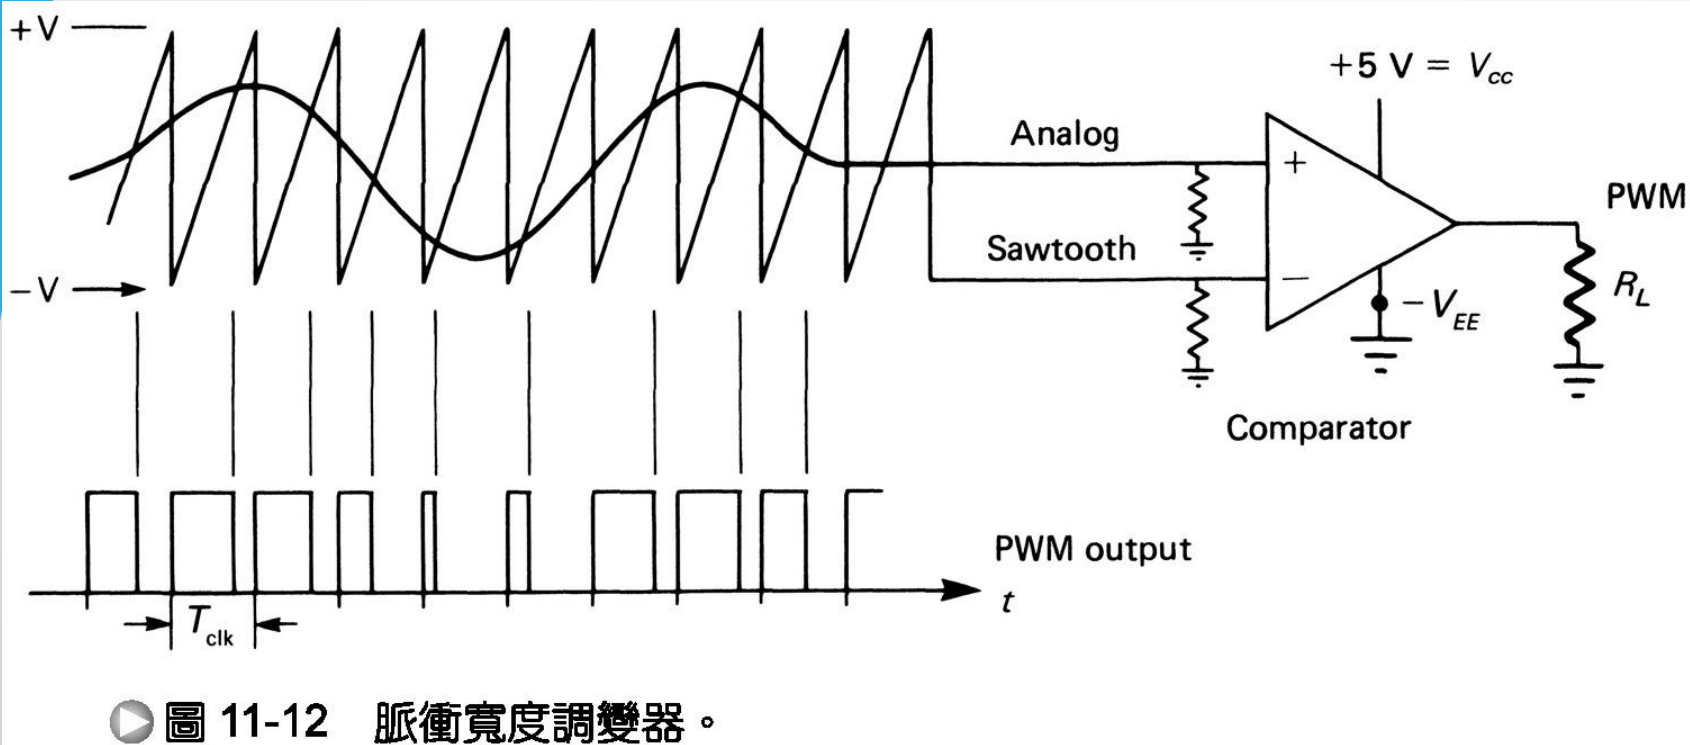

Figure 11-12. Pulse width modulator.
- Figure 11-12 shows a PWM modulator. This circuit is simply a high-gain comparator that is switched on and off by the sawtooth waveform derived from a very stable-frequency oscillator.